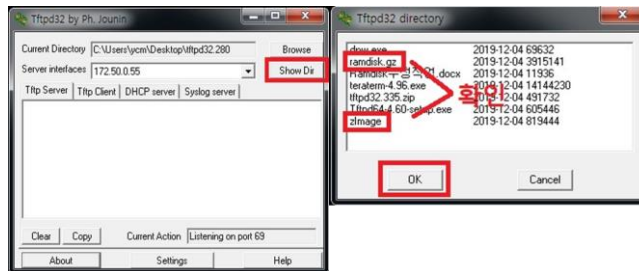

Figure 4. tftpd32 - Show directory
5. If exists, press 'OK' button (see Figure 4).